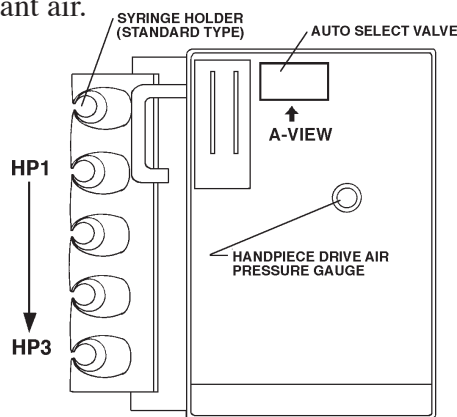
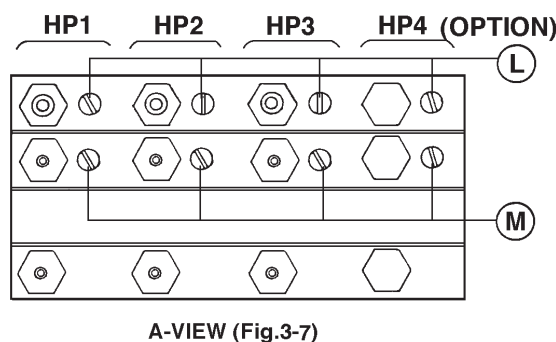

Fig.3-7 Doctor Table Inside
Fig.3-8 Auto Select Valve
(3) Handpiece Drive Air and Coolant Air Adjustment Screws (Fig.3-7, Fig.3-8)
(3-L) Handpiece Drive Air Adjustment Screw (Fig.3-8)
(3-M) Handpiece Coolant Air Adjustment Screws (Fig.3-8)